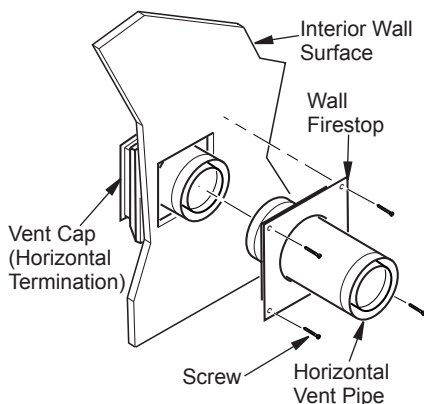

Figure 12 - Connecting Vent Cap with Horizontal Vent Pipe
7. **Connecting Vent Cap with Horizontal Vent Pipe:** Slide the wall firestop over the vent pipe before connecting horizontal run to vent cap (see Figure 12).